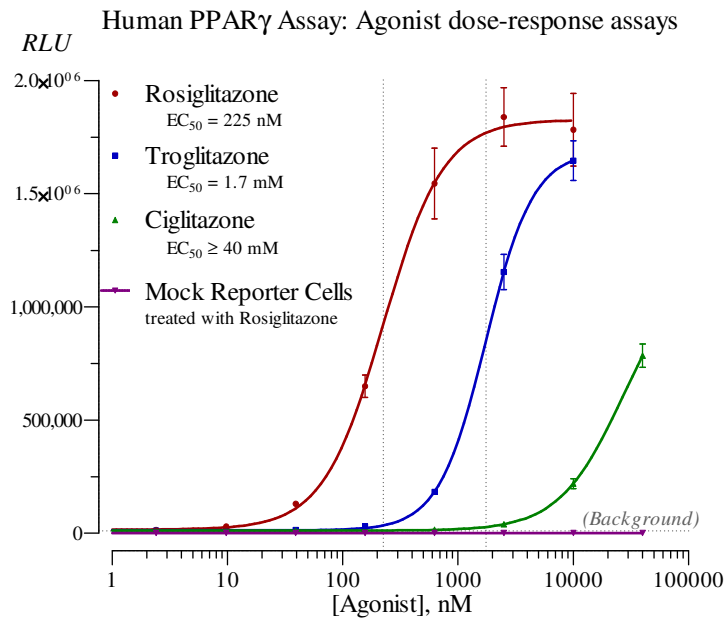

Figure 4a. Agonist dose-response analyses of Human PPAR γ .
- **PPAR γ** : Rosiglitazone is provided as a 10 mM stock in DMSO; it may be used as an agonist of PPAR γ (Figure 4A) to set up antagonist screens. 300 nM Rosiglitazone typically approximates EC₇₀ in this assay.
▪ **PPAR γ .** Agonist Rosiglitazone is provided as a 10 mM stock in DMSO. The PPAR γ assay typically exhibits a complete dose-response to Rosiglitazone using treatment concentrations of: 2000, 1000, 500, 250, 125, 62.5, 31.3, 15.6 and 0 nM (Figure 4A). **APPENDIX 3** provides an example for generating such a dilution series.